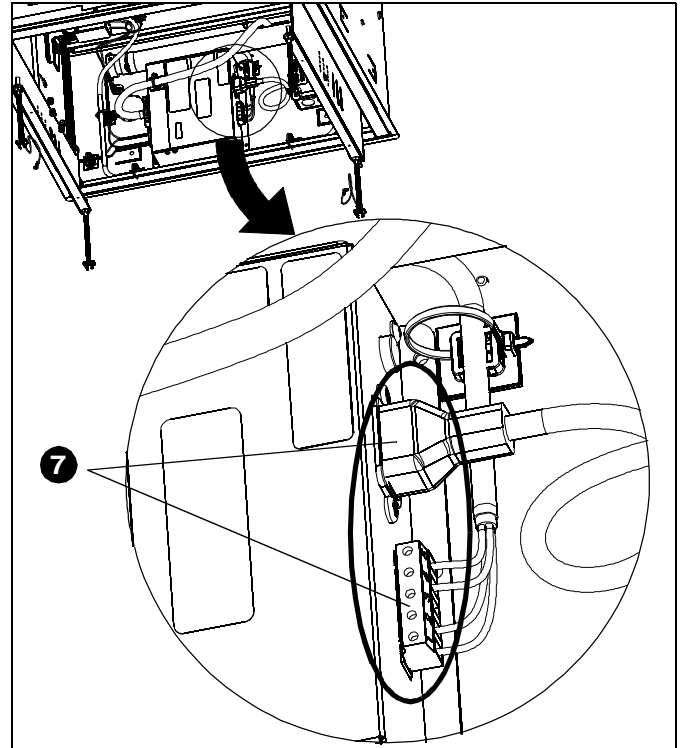

Figure 2
7. Disconnect power inlet and motor connector plugs. (See Figure 2)